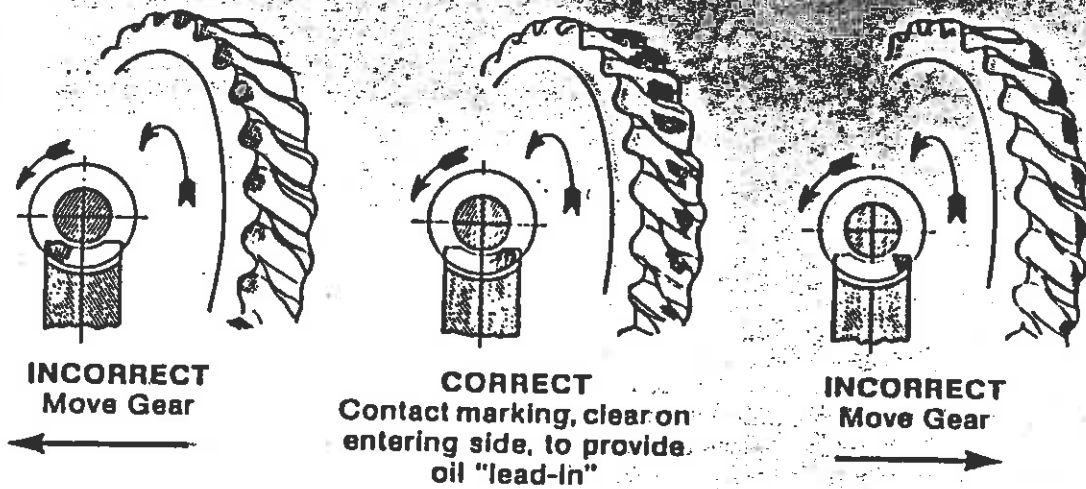

Figure 6. Gear Contact Pattern:
- E. Use a rag to apply hand pressure to the output shaft and rotate the high speed shaft until output key is down. Return output shaft to original position by reversing rotation. Remove output shaft and seal cage to inspect contact. Compare with Figure 6. If contact is not correct move assembly in the direction shown in Figure 6 by adding shims to the side to which the arrow points after removing them from the opposite side. Repeat steps D and E until contact pattern is correct.